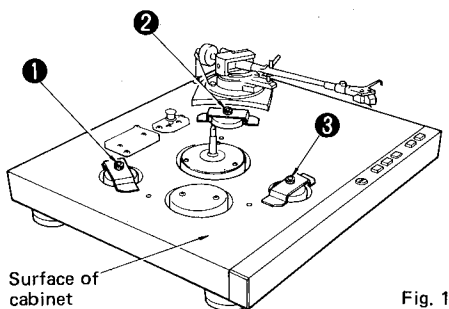

Fig. 1
1. Adjust so that the space between platter and surface of cabinet is  $4\text{mm} \pm 0.2\text{mm}$  by turning screws ① to ③ as shown in the Fig.1.